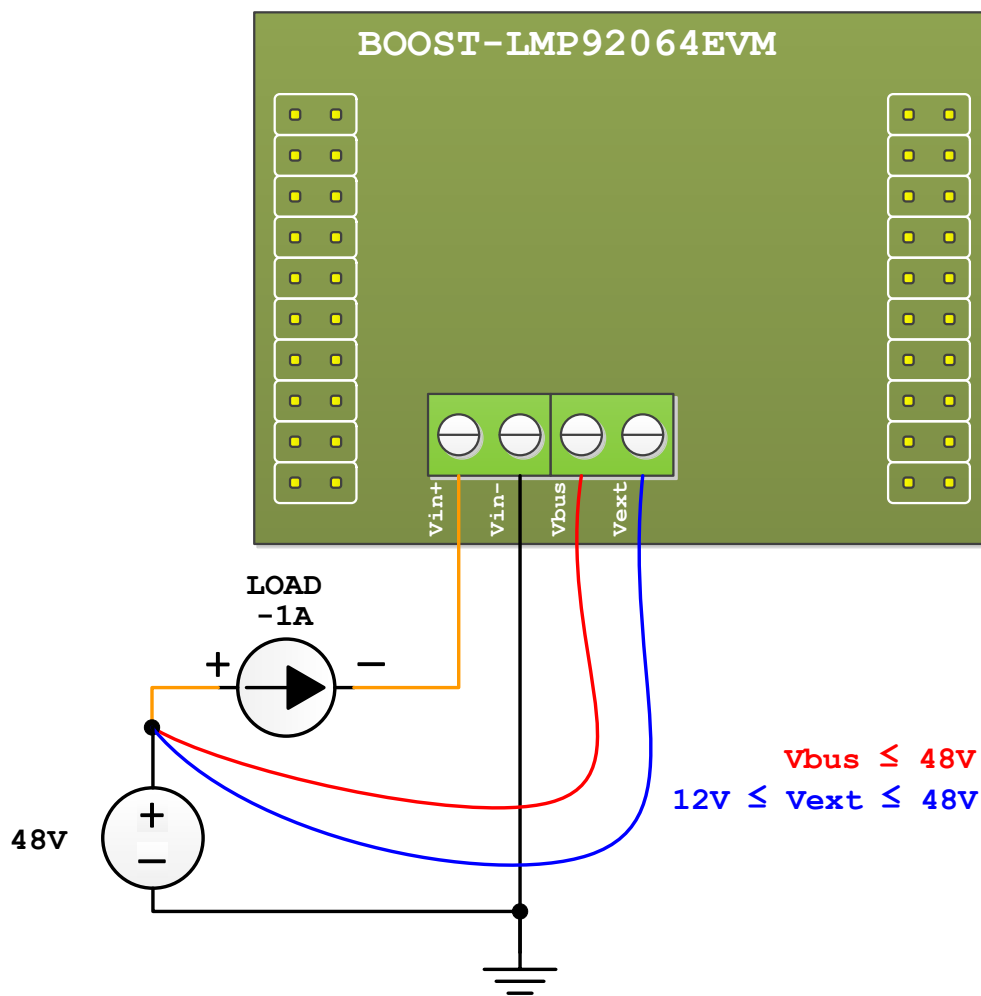

Figure 3. Example setup
2	Vext should connect to the positive terminal of the load's power supply or other power supply. On the BoosterPack, this terminal is connected to the step-down converter circuit and the input voltage range is from 12V to 48V. The negative terminal of the power supply should connect to Vin- as shown in Figure 3 .
3. Also, connect the positive terminal of the power supply to the Vbus and the Vext terminals of the BoosterPack. It is recommended to use a star connection as depicted in Figure 3.